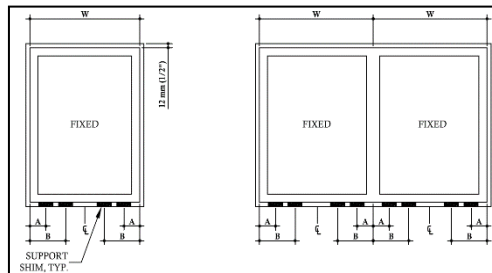

Figure 1-2. Where to put the frame support shims
- 2.4 Shim sill of window on the corners and on both sides of any mullions with 4" x 1 1/2" shims (See fig. 1-2). **Adjust the height of the shims to obtain a level sill**, ensuring you have a 3/8" gap at the head (inter-storey deflection not to exceed $\pm 3/8"$).